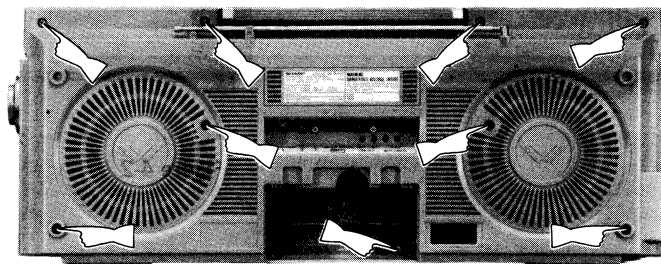

Figure 5-2
3. Remove nine screws at the front cabinet and back cabinet. See Fig. 5-2.